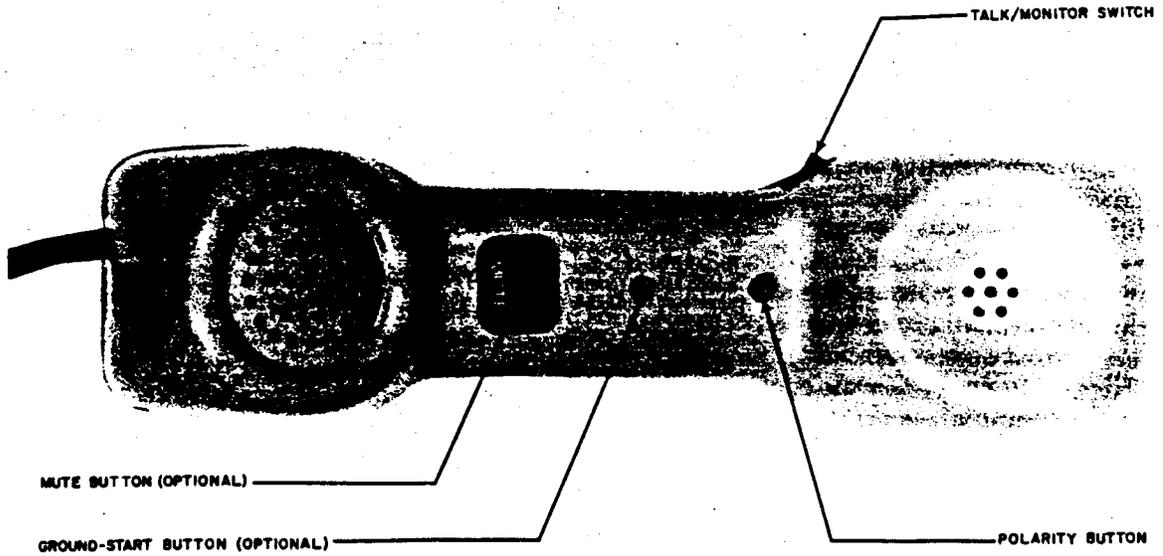

Fig. 2—TS21 Handset Assembly—Transmitter and Receiver Side
The TS21 Lineman's Test Set (Fig. 2 and 3) has a two-piece case made of high-impact plastic. It is specially contoured to fit the shoulder and is equipped with a non-slip pad to facilitate free use. The set is two-tone in color, either black and light blue or ochre and blue (see Table B), contains a heavy-duty spring-loaded belt clip on the transmitter end of the case. The keypad, switches and associated switches are located on the back of the handset at the receiver end of the case. Additional switches are mounted on the side and top of the handgrip. Electronic components are mounted on a single printed circuit board located inside the handset case.
3.07 Talk/Monitor Switch: The TALK/MONITOR switch is a black rocker switch located on the side of the test set near the receiver (Fig. 2). In the T (TALK) position, it establishes an off-hook condition for dialing and talking. In this mode, the test set performs as a common battery telephone. In the M (MONITOR) position, the switch removes the transmitter from the circuit and provides a high-impedance coupling to the line. This allows monitoring of the line without disrupting a conversation in progress or a data or signaling transmission.
3.11 Polarity Switch and LEDs: The POLARITY switch is a small black button located on the inside of the handgrip, just under the receiver (Fig. 2). The polarity indicators consist of a yellow LED located in the upper lefthand corner of the keypad bezel and a red LED in the upper righthand corner. The POLARITY switch and the LEDs are used to determine the polarity of a telephone line.
3.12 Mute Switch (Optional): The optional MUTE switch is located on the inside of the handgrip, just above the transmitter (Fig. 2). When pressed, this switch shunts the transmitter to improve the reception in noisy locations.